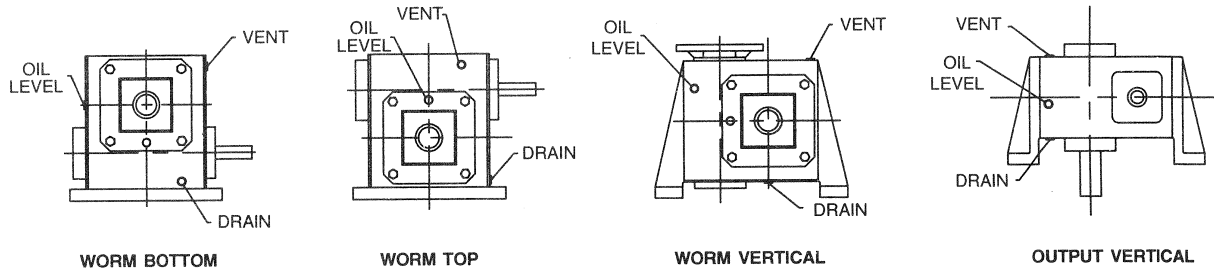

Figure 8 Standard Oil Levels
- C. Fill reducer with the recommended oil to proper level. See Figure 8 for standard oil levels.